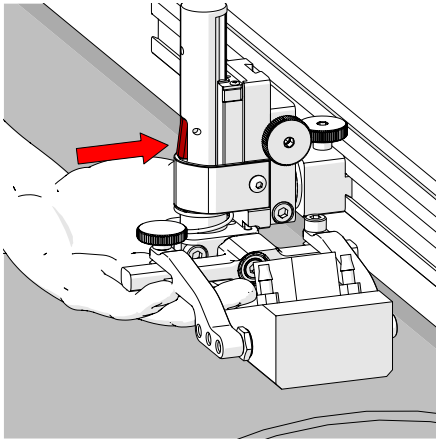
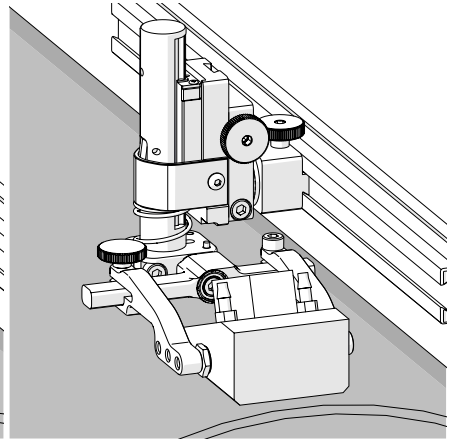

Fig. 120 - Press latch button
Fig. 121 - Lower toward scan surface
4. Lift the yoke slightly and press the latch button (Fig. 120), then slowly lower towards scanning surface to apply spring pressure to the wedge (Fig. 121).